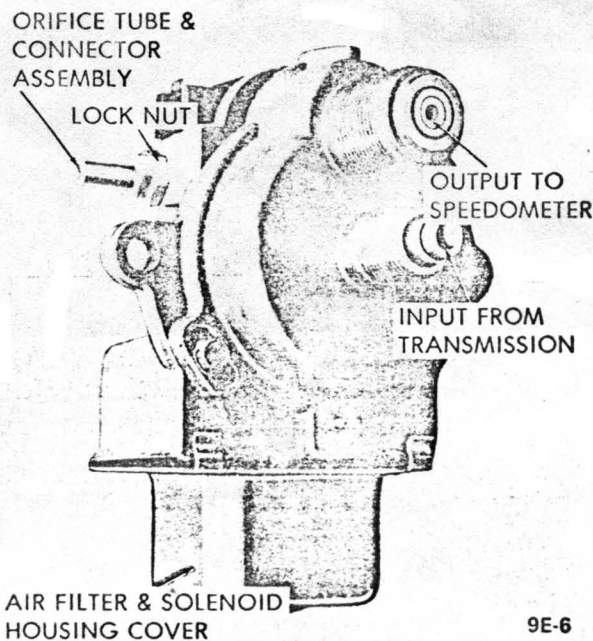

Figure 9E-6 - Speed Transducer
2. Check bead chain slack by unsnapping swivel from ball stud and holding chain taut at ball stud; center of swivel should extend 1/8 inch beyond center of ball stud. See Figure 9E-10.
If the car cruises at a speed above or below the engagement speed, this error can be corrected with a simple adjustment of the orifice tube in the transducer. See Figure 9E-6.